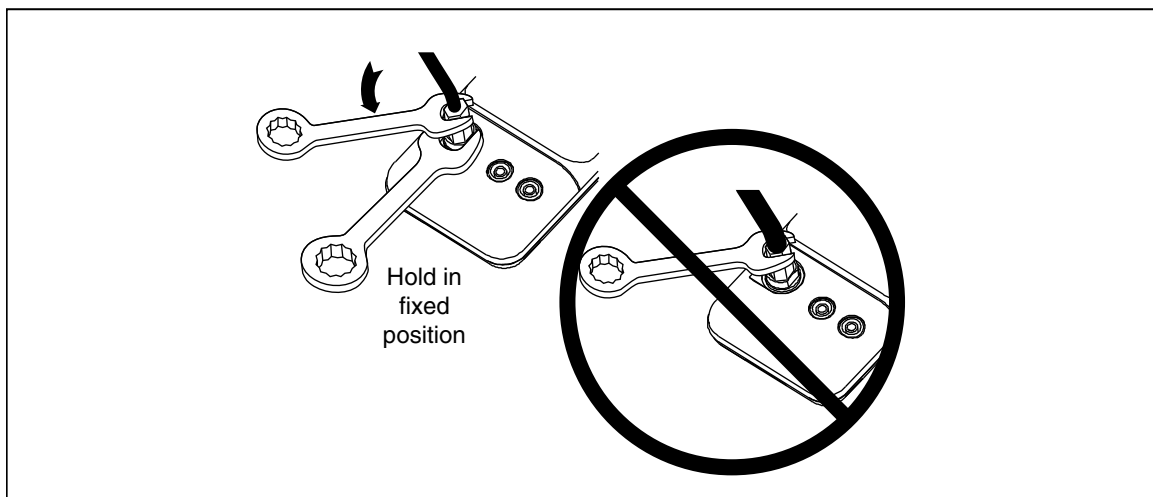

Figure 1. Proper Use of Tools (717, 718, and 718Ex Models)
- Models, 717, 718, and 719 only: To avoid mechanically damaging the Calibrator, do not apply torque between the pressure fitting and the Calibrator case. See Figure 1 for the proper use of tools.